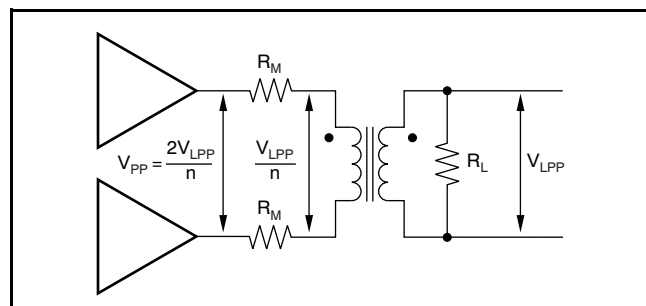
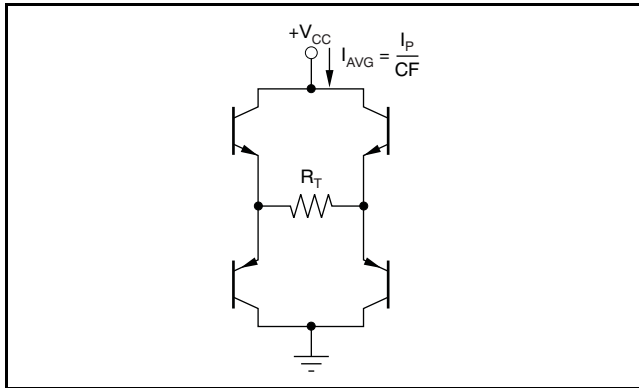

Figure 83. Driver Peak Output Voltage
Figure 86. Output Stage Power Model
with  $V_{PP}$  as defined in Equation 8, and  $R_M$  as defined in Equation 3 and shown in Figure 83.
The total internal power dissipation for the THS6204 in an xDSL line driver application will be the sum of the quiescent power and the output stage power. The THS6204 holds a relatively constant quiescent current versus supply voltage—giving a power contribution that is simply the quiescent current times the supply voltage used (the supply voltage will be greater than the solution given in Equation 11). The total output stage power may be computed with reference to Figure 86.
The two output stages used to drive the load of Figure 83 can be seen as an H-Bridge in Figure 86. The average current drawn from the supply into this H-Bridge and load will be the peak current in the load given by Equation 9 divided by the crest factor (CF) for the xDSL modulation. This total power from the supply is then reduced by the power in  $R_T$  to leave the power dissipated internal to the drivers in the four output stage transistors. That power is simply the target line power used in Equation 4 plus the power lost in the matching elements ( $R_M$ ). In the examples here, a perfect match is targeted giving the same power in the matching elements as in the load. The output stage power is then set by Equation 12.